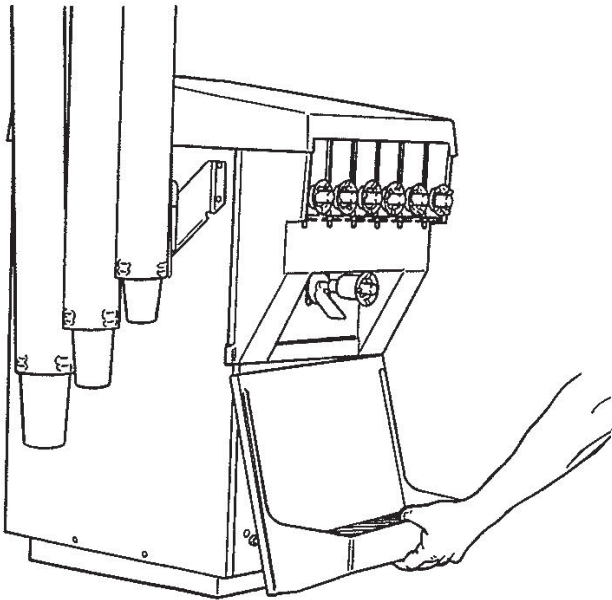

Figure 9. Removing Drip Tray and Insert
- C. Remove the drip tray and insert by gently pushing up to disengage from the support pins and pulling out and down (Fig. 9).